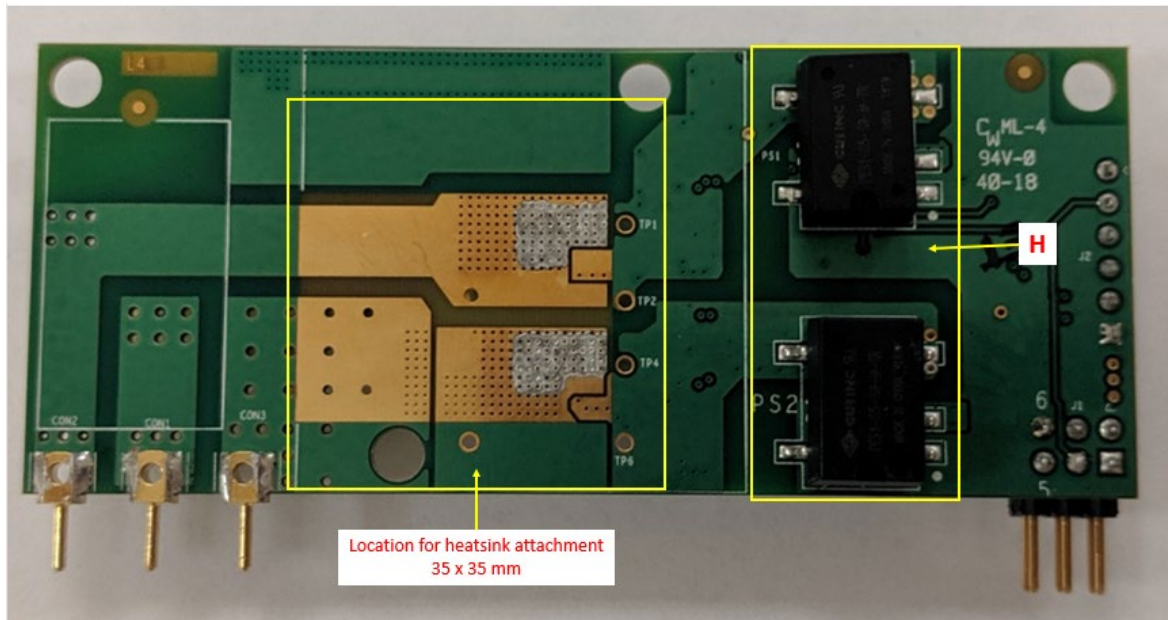

Figure 3 - GS66508B-EVBDB bottom side
3. A thermal tape type TIM (Bergquist® Bond-Ply 100) is chosen for its easy assembly. The supplied heatsink has the thermal tape pre-applied so simply peel off the protective film and attach the heatsink to the back of board as marked in Figure 3.